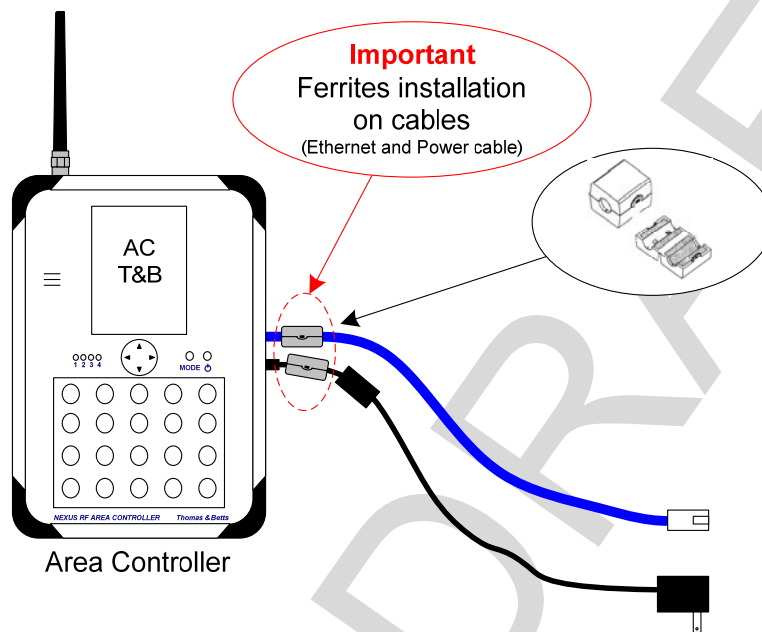

Figure 2 (Ferrite installation details for the AC and ACR)
- (1) this device may not cause harmful interference.
- (2) this device must accept any interference received, including interference that may cause undesired operation.
- (3) the user must install the ferrites supplied by the manufacturer. See example in Figure 2 (Ferrite installation details for the AC and ACR)
- (4) only the supplied antenna must be installed in this equipment. See section "Unauthorized Antenna Modifications" at next page.
- Install the two Ferrites include with this package on the Power supply cable and on the Ethernet cable. See Figure 2 (Ferrite installation details for the AC and ACR)